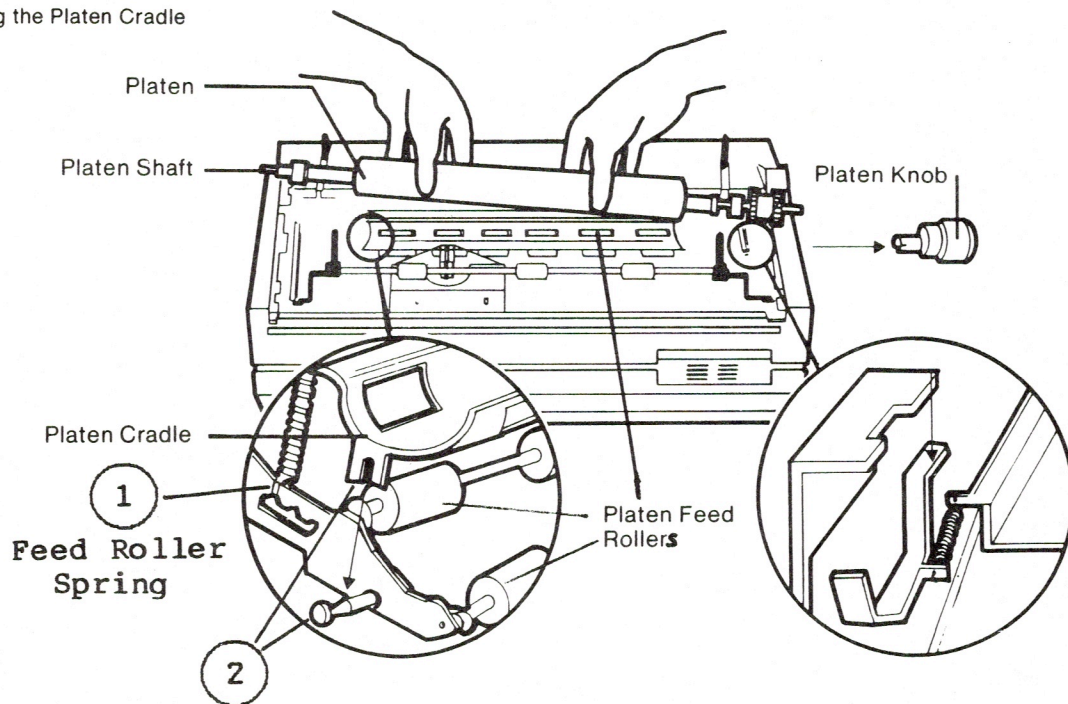

FIGURE 3
2. Remove the DWP access cover, Sheet Feeder, DWP top cover and platen. Check the platen cradle and feed rollers (see Figure 3):